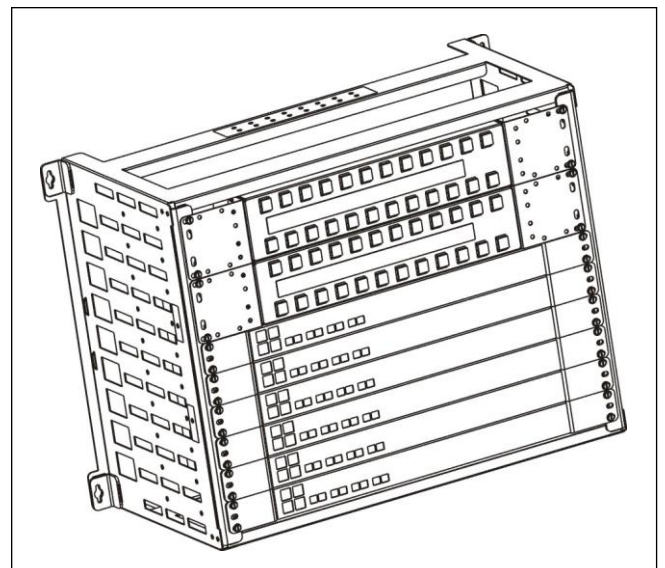
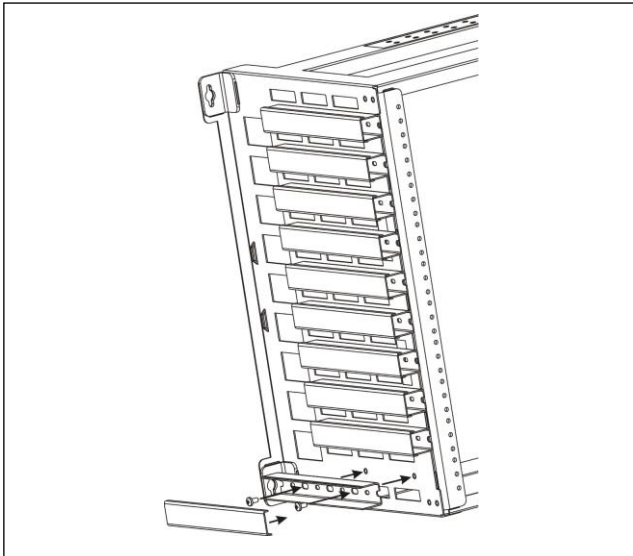

Figure 2. WR-10U23 w/ equipment installed (example)
Figure 8. Cable guide installation
- ① Install rack equipment with 23" hole spacing by carefully sliding the chassis through the front of the WR-10U23 and aligning chassis mounting ears with the threaded holes in the rails of the WR-10U23 frame. Insert and tighten #12-24 machine screws (customer provided) on each side of the chassis. An example of a fully populated wall rack is shown in Figure 2.
- ② Attach ground lugs associated with each equipment chassis to the threaded ground holes on the WR-10U23 crossbar as needed.
- ① To install a cable guide to the side of the mounting, first remove the sliding cover from the cable guide. Insert two of the #10-32 x 3/8" screws (included in CG-5 package) through the cable guide and into the threaded holes on the side of the WR-10U23 frame (Figure 8).